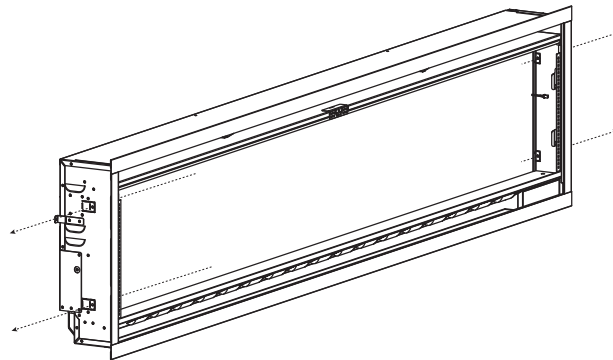

FIG. 5
8. Use 4 screws to secure the appliance into the wall (FIG. 5). Do not overtighten screws.